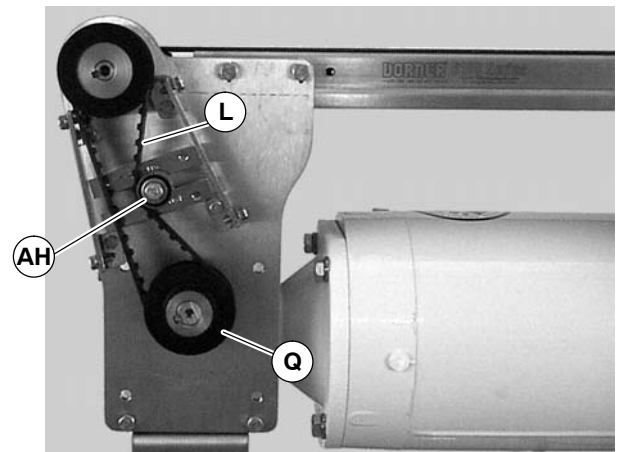

Figure 37
2. Loosen tensioner (AH of Figure 37).